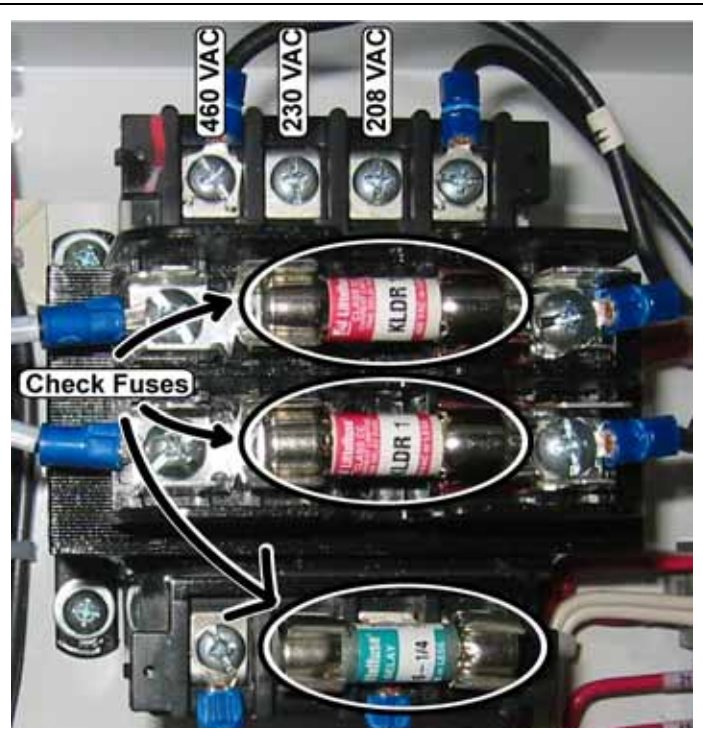

Figure 26, Internal Circuit Breakers
- Step 5) With the service disconnect OFF, pull and test the three fuses indicated in Figure 26.
Step 8) With the fused disconnect OFF, pull and test the three fuses indicated in Figure 26.